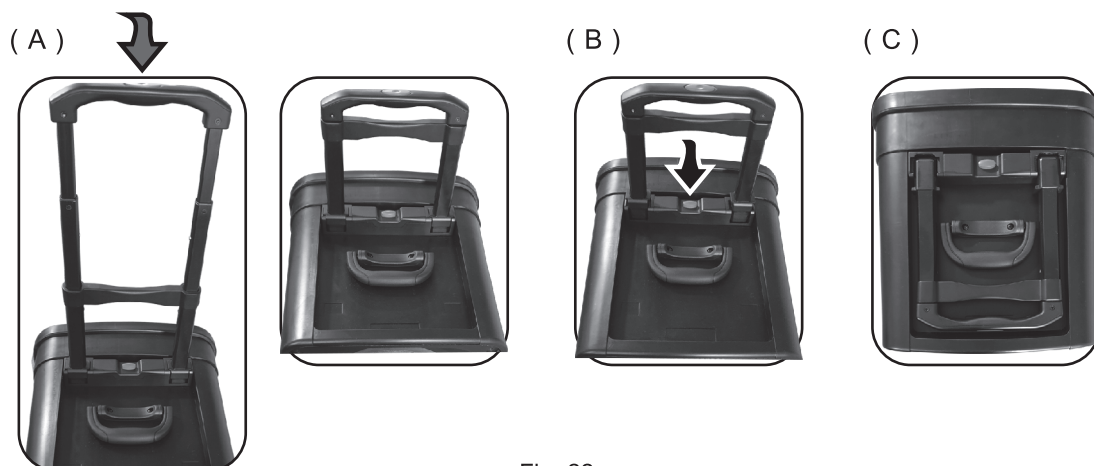

Fig. 22
2. How to store a retractable carry handle. Fig. 22:
- (A) Press the button on the handle to retract it.
- (B) Press the red button under the carry handle by one hand; pull up the carry handle by the other hand. Now the carry handle is loosened and can be folded horizontally.
- (C) Put the carry handle inside the storage slot.